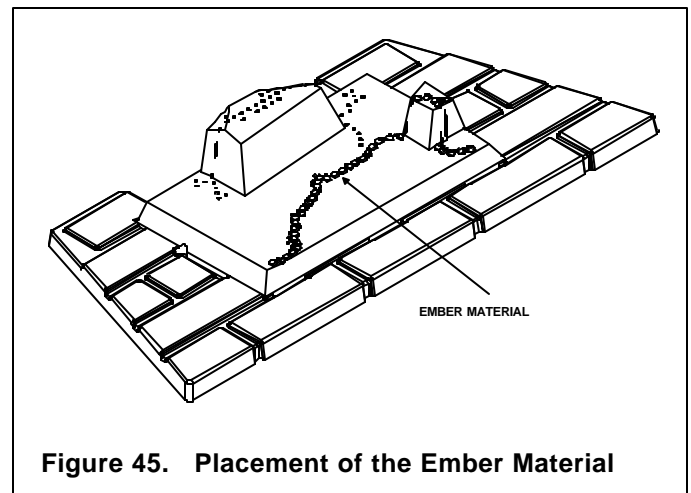

Figure 45. Placement of the Ember Material
- When placing Glowing embers onto the burner care should be taken so that the ports are not covered. Place the embers along side the port trail, but not on or in between the ports (see Figure 45). Failure to follow this procedure will likely cause lighting and sooting problems.